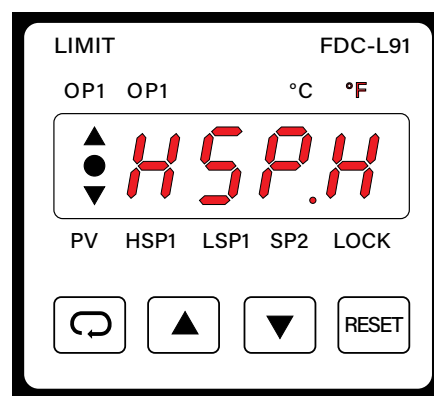

Figure 16
3. Press the SCROLL key until you see "HSP.H". It will flash "2350". (See **Figure 16**).